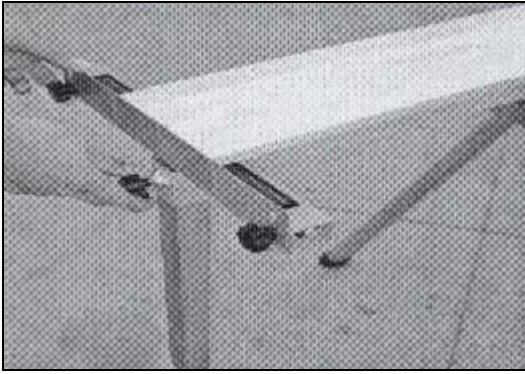

Figure 7
3. Adjust the two material support rails for height using the lock knobs, see figures 7 and 8.